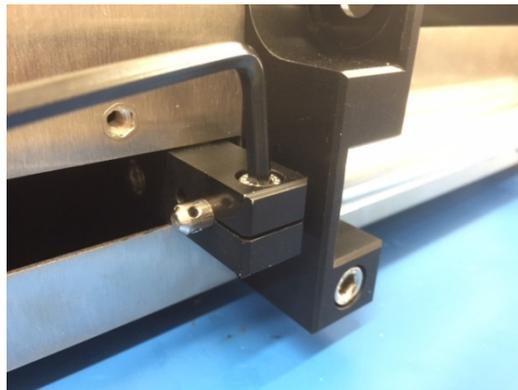

Figure 10 - Loosen the securing screw (right hand piston shown)
- 7.1.7 Using the 4mm hex key supplied with the tool kit, loosen the carrier arm clamp on the piston rod to free the rod as shown in Figure 10.
- 7.2.3 Using the 4mm hex key supplied with the tool kit, loosen the screw securing the piston rod to the carrier arm as shown in Figure 10.